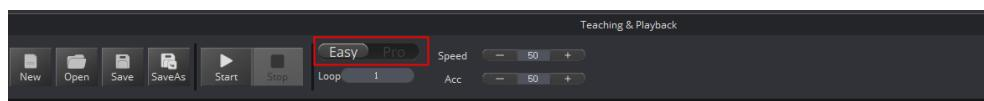

Figure 5.208 Switch advanced function
Step 1 Click **Easy** icon on the **Teaching&Playback** page, as shown in Figure 5.208.